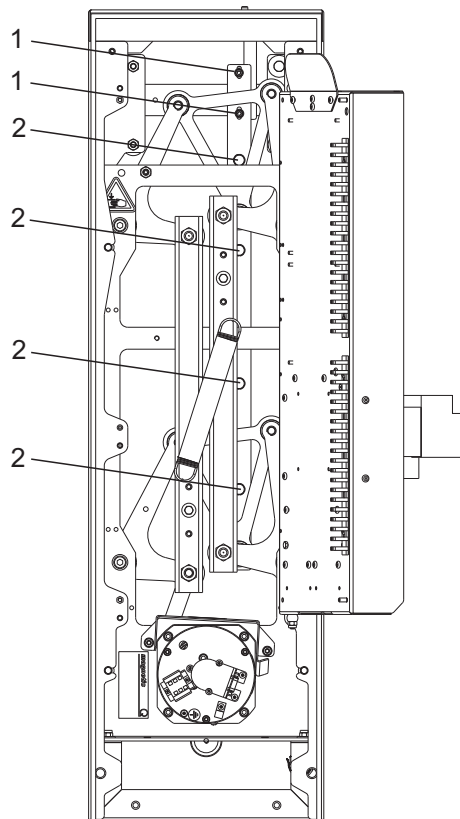

Fig. 16: cover strip carrier, screws on the clamping strip
7. Tighten the clamping screws progressively and alternately to a torque of approx. 15 Nm. Refer to Page 44, Fig. 16.